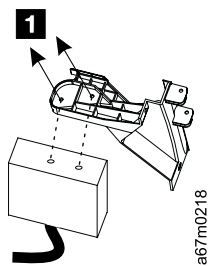

Figure 84. Removing the Bar Code Scanner
7. Remove the existing bar code scanner by loosening the two screws on the top of the I/O door bracket (see Figure 84) and detaching the scanner from the bracket.